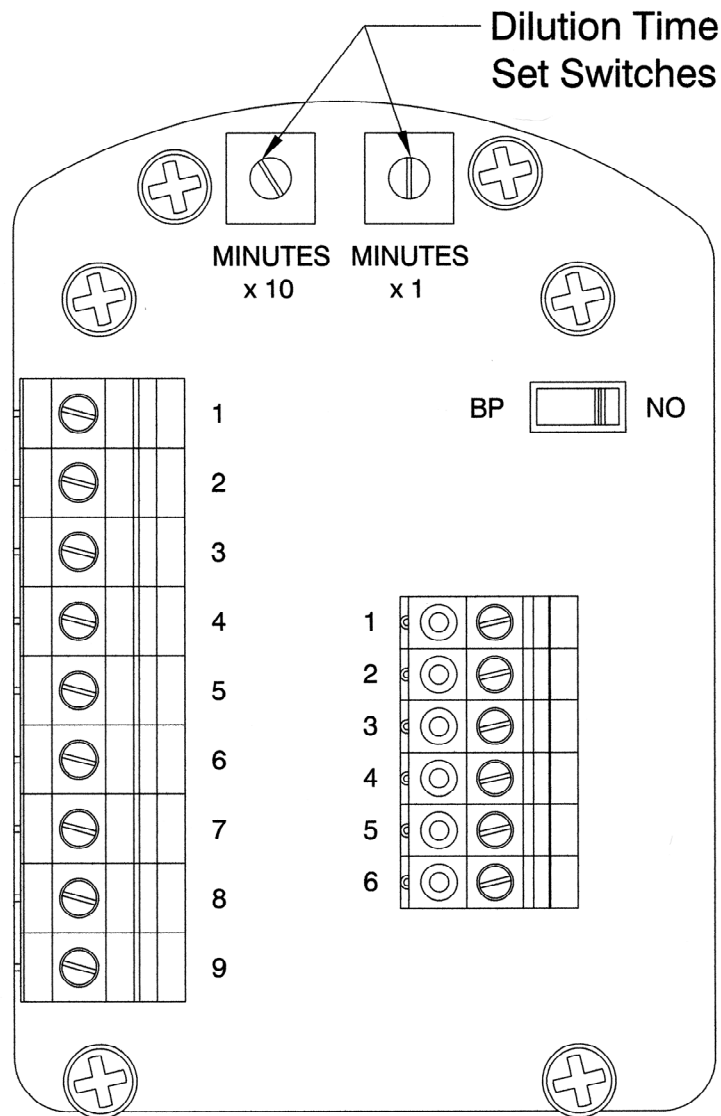

Figure 2
With TRYCLOPS X – Purge Controller, XP Version cover removed, set automatic dilution time cycle in the TRYCLOPS X – Purge Controller, XP Version to ensure that at least five (5) times the volume of free space in the largest electronics enclosure is exchanged before power is automatically applied to the electrical equipment from the TRYCLOPS X – Purge Controller, XP Version. Refer to Figure 2 for location and details of dilution time switches in TRYCLOPS X – Purge Controller, XP Version.